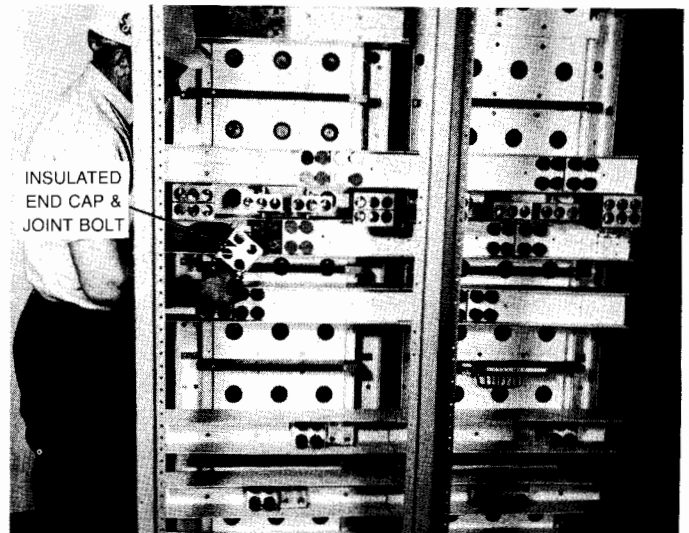

FIGURE 17.
3. Re-Install end caps, joint hardware and joint insulating caps. (Fig. 17)